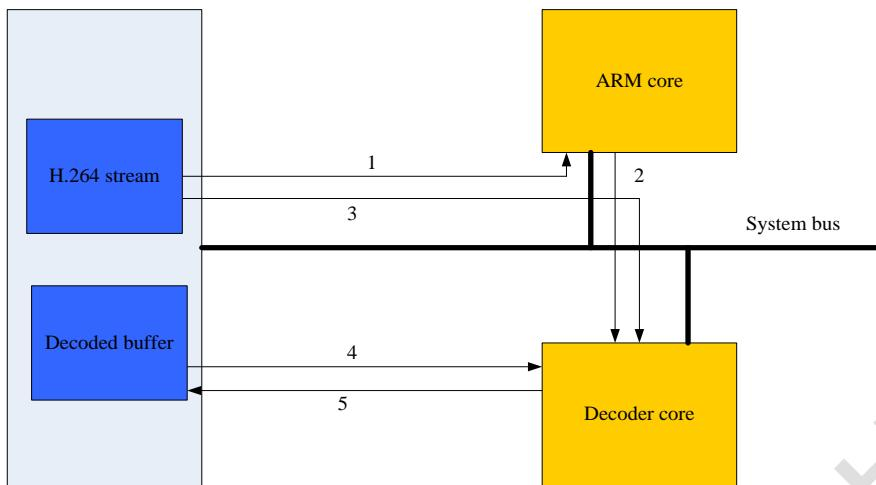

Fig. 2-4 Dataflow of HW performs entropy decoding in video decoder
The dataflow of HW performs entropy decoding is as Fig. 2-4 shown. The decoder software (SW) starts decoding the first picture by parsing the stream headers (1). Software then setups the hardware control registers (picture size, stream start address etc.) and enables the hardware (2). Hardware decodes the picture by reading stream (3) and the reference pictures (required for inter picture decoding)(4) from the external memory. Hardware writes the decoded output picture to memory one macroblock at a time (5). When the picture has been fully decoded the hardware has run out of stream data, it gives an interrupt with a proper status flag and provides stream and address for software to continue and returns to initial state.